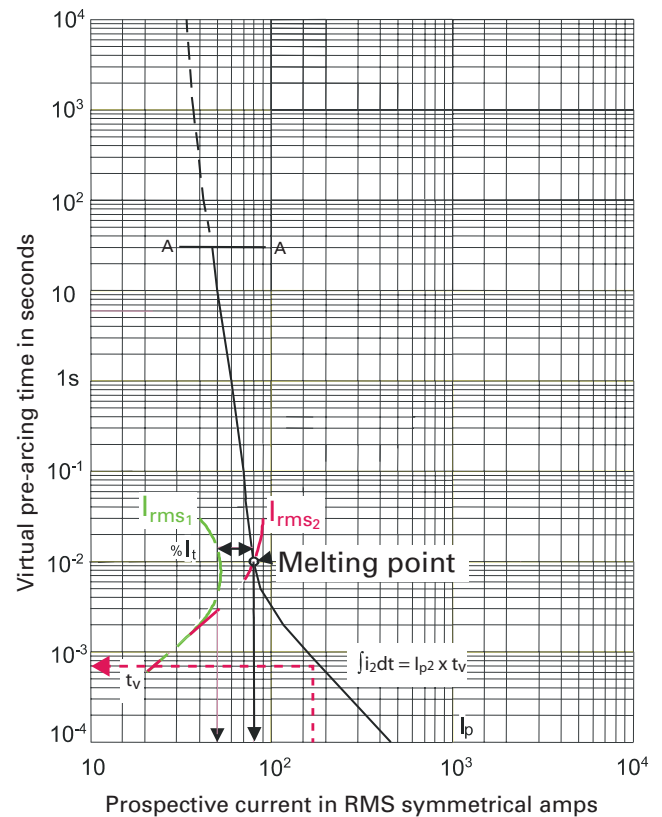

Figure C1. Time-current curves.
The time-current curve, also called the TCC curve, provides vital information for the selection and determination phase. See Figure C1.
It is at these virtual times, using  $I_p$  and  $t_v$  directly from the fuse time-current curve, that permits calculating its melting integral ( $I_p^2 \times t_v$ ) for the actual value of prospective current (see Figure C1). The following method shows two examples ( $I_1$  and  $I_2$ ) with guidelines to determine the effect on a fuse from an overload or short-circuit:
- Plot the RMS current values as coordinates  $I_{RMS}, t_r$  onto the fuse time-current curve as shown in Figure C1
- If the plotted curve crosses the fuse's melting curve ( $I_{RMS2}$  in Figure C1), the fuse melts at the time which can be found at the crossing point in real time ( $t_r$ )
If the plotted curve does not cross the fuse's melting curve ( $I_{RMS1}$  in Figure C1), the fuse will not open.